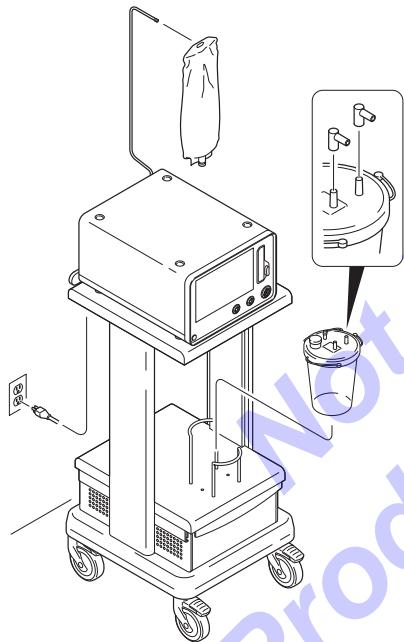

Figure 72 – Console Preparation
- Put the console on a flat, sturdy surface near a hospital-grade power receptacle with protective earth ground (Figure 72).
1. Put the suction canister into the holder on the Sonopet cart (Figure 72).
Suspend a collapsible irrigation fluid container (bag) from the console Irrigation pole (Figure 72).